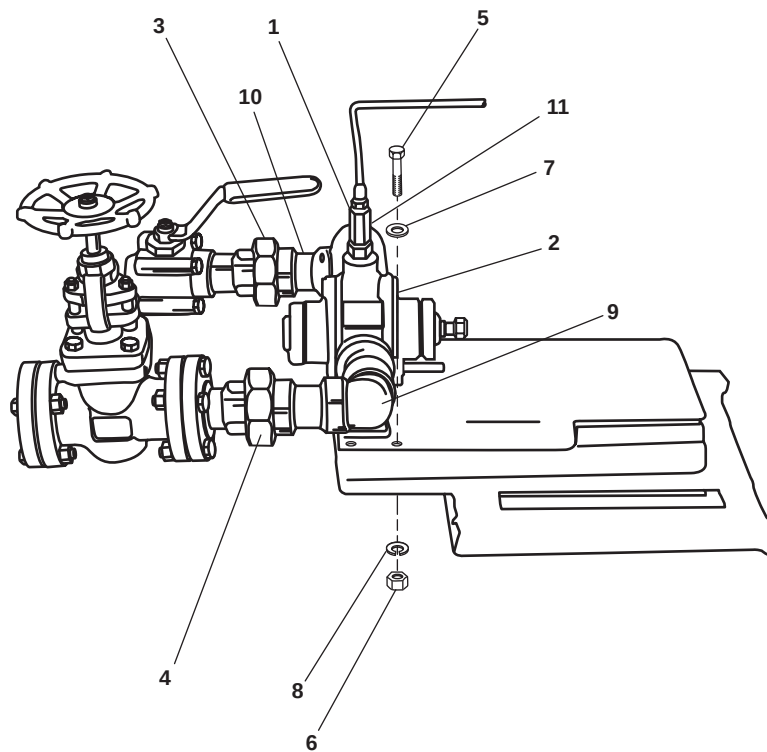

Figure 1. Fuel Oil Transfer Pump
2. Slowly loosen the pressure gauge piping (figure 1, item 1) to relieve pressure from the fuel oil transfer pump (figure 1, item 2). Allow any fuel oil to drain into the suitable drain pan.
3. After all pressure has been released, remove the pressure gauge piping (figure 1, item 1) from the fuel oil transfer pump (figure 1, item 2).
4. Disconnect the fuel oil piping at the fuel oil transfer pump (figure 1, item 2) inlet and outlet unions (figure 1, item 3 and 4).
5. Remove the four bolts (figure 1, item 5), four nuts (figure 1, item 6), four flat washers (figure 1, item 7), and four lockwashers (figure 1, item 8) securing the fuel oil transfer pump (figure 1, item 2) to its foundation. Discard the lockwashers.
6. Remove the fuel oil transfer pump (figure 1, item 2) from its foundation.
Observe the positioning of the elbows before removing them from the unit. Refer to figure 1.
7. Remove the inlet (figure 1, item 9) and outlet elbows (figure 1, item 10) and discharge pressure fittings (figure 1, item 11) from the applicable sides of the fuel oil transfer pump (figure 1, item 2). Retain the fittings for installation on the new or repaired pump.
1. Apply antiseizing tape on the pipe threads of the inlet (figure 1, item 9) and outlet elbows (figure 1, item 10), and discharge pressure fittings (figure 1, item 11). Install the elbows and discharge fittings on the fuel oil transfer pump (figure 1, item 2).
2. Position the fuel oil transfer pump (figure 1, item 2) on its foundation.
3. Install the four bolts (figure 1, item 5), four nuts (figure 1, item 6), four flat washers (figure 1, item 7), and four new lockwashers (figure 1, item 8) in the fuel oil transfer pump (figure 1, item 2). Do not tighten the bolts at this time.
4. Connect and tighten the unions (figure 1, item 3 and 4) on the fuel oil transfer pump (figure 1, item 2).
5. Tighten the four bolts (figure 1, item 5) securing the fuel oil transfer pump (figure 1, item 2) to its foundation.
6. Connect the discharge pressure gauge piping (figure 1, item 1) to fuel oil transfer pump (figure 1, item 2) and tighten the piping connection.